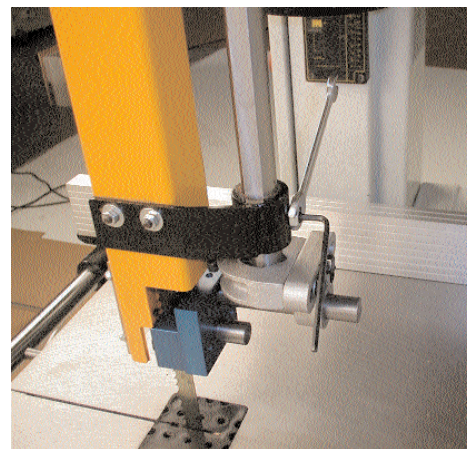

Fig. 13
15. Move the blade guide down and clamp in the correct position. See Fig. 13.